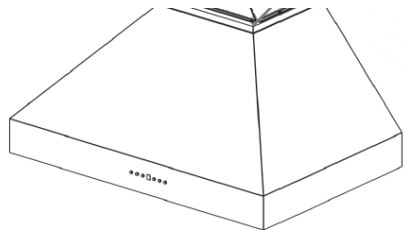

Figure 6.
9. Connect the duct with the air outlet adapter by using foil-backed tape to seal the joints and to hold it in place. *Figure 6.*